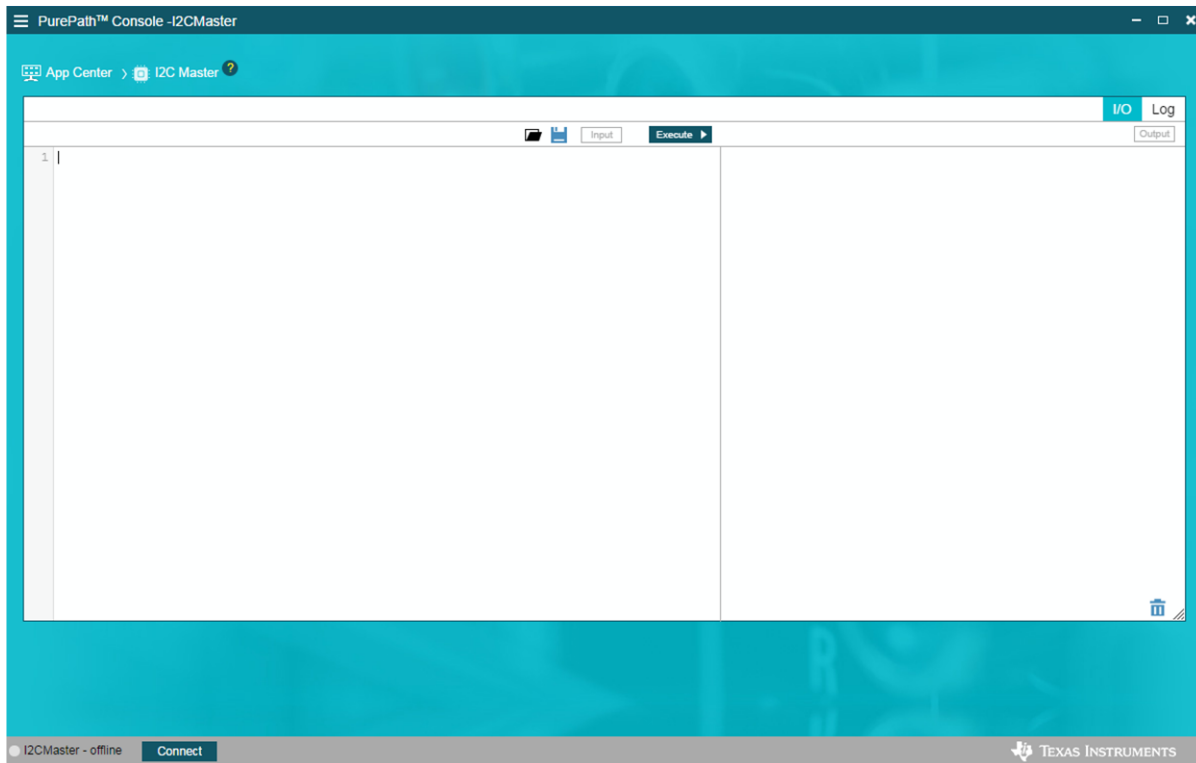

图 6. I2C Master Interface
- Launch the I2C Master App. In the bottom lefthand corner there should be a button that says Connect, shown in 图 6. Press the connect button and now the button should be red and say Disconnect.
- Shown in 图 6, click the Excute button. All lines should say successfully written.